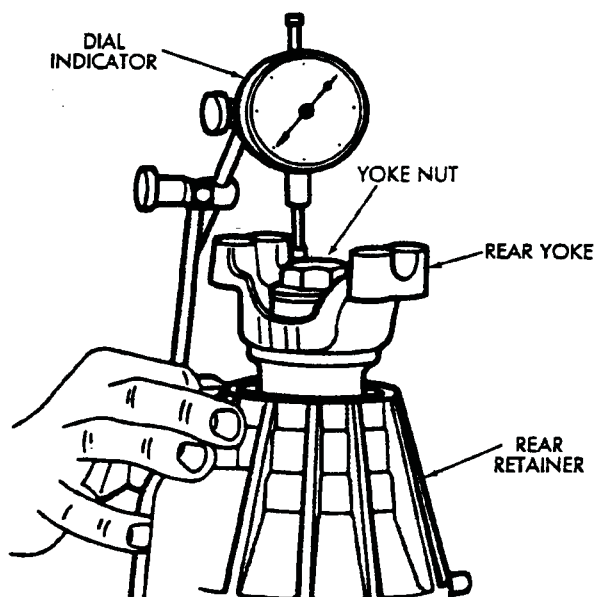

Fig. 4-65 Checking Output Shaft End Play
69. Install the rear retainer (Fig. 4-65) but do not tighten the retainer bolts completely at this time.
71. Install the rear yoke and original yoke nut (Fig. 4-65). Tighten nut but do not tighten the nut completely at this time.
72. Mount dial indicator on rear retainer. Position the indicator stylus on the yoke nut and zero the indicator (Fig. 4-65).